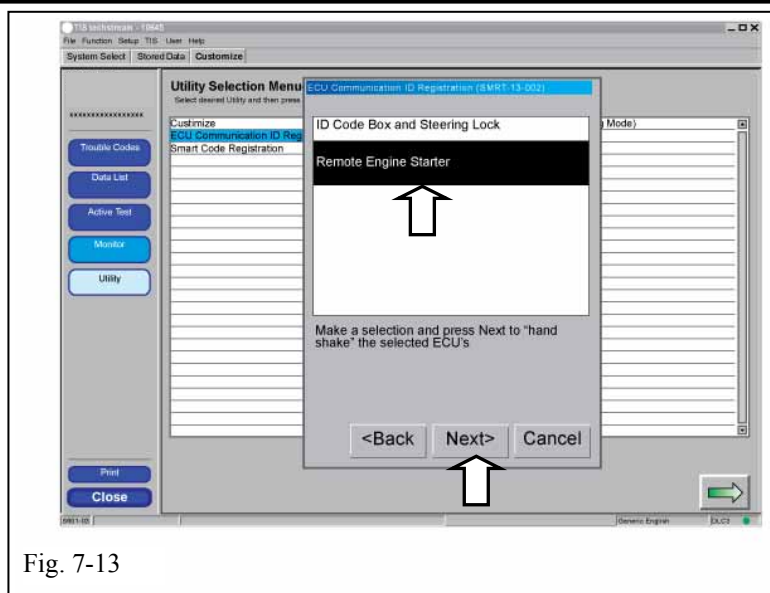

Fig. 7-13
- (z) Select “Remote Engine Starter.” (Fig. 7-13)
- (aa) Click “Next>” to continue. (Fig. 7-13)